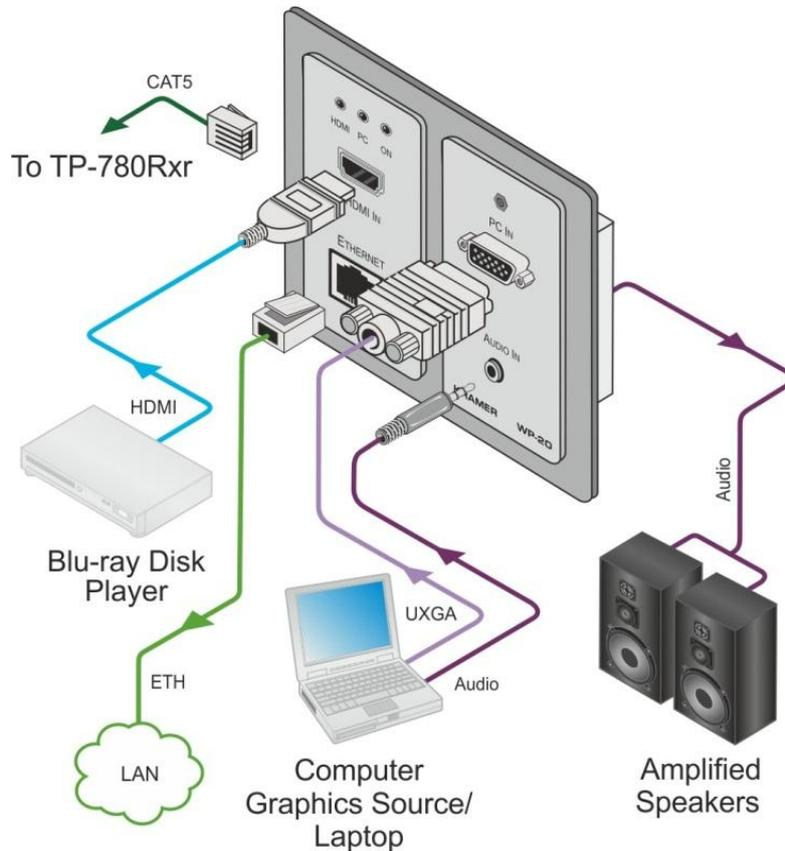

Figure 5: Connecting the WP-20 Wall Plate
To connect the WP-20, as illustrated in the example in Figure 5:
8. If the device is not connected to a PoE provider, connect the power adapter to the **WP-20** and to the mains power, (not shown in Figure 5).